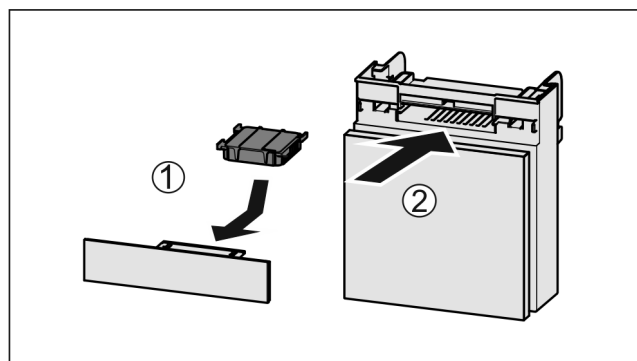

Fig. 44
- Insert the carbon filter as shown in the diagram Fig. 44 (1).
- Push the compartment in Fig. 44 (2).